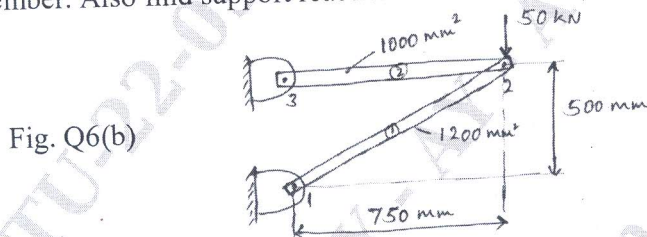

Fig. Q6(b)
b. For the two bar truss shown in fig.Q6(b), determine the nodal displacement and stress in each member. Also find support reaction. Take $E = 200\text{GPa}$. (12 Marks)